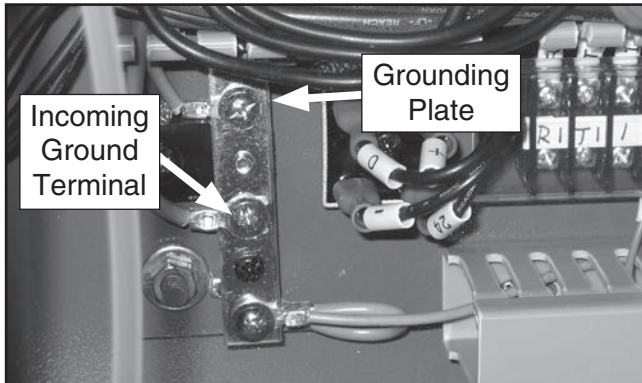

Figure 18. Location to connect incoming ground wire on grounding plate.
3. Connect ground wire to ground terminal shown in **Figure 18** on grounding plate.